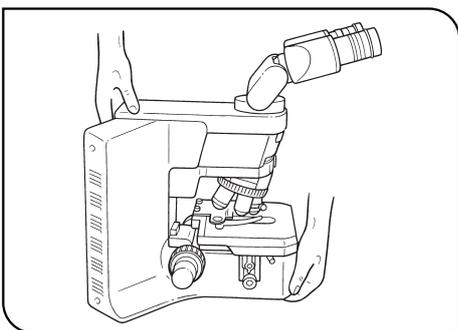

Fig. 3
4. When moving the microscope, carefully carry it with the grasping part on the rear of the arm and the base as shown in Fig. 3 (Weight: approx. 14 kg).